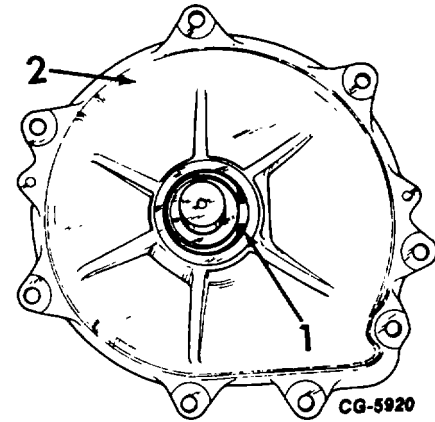

Figure 4. - Bearing Snap Ring Removal
2. Remove the snap ring (1, Fig. 4) in the bearing housing (2) as shown.